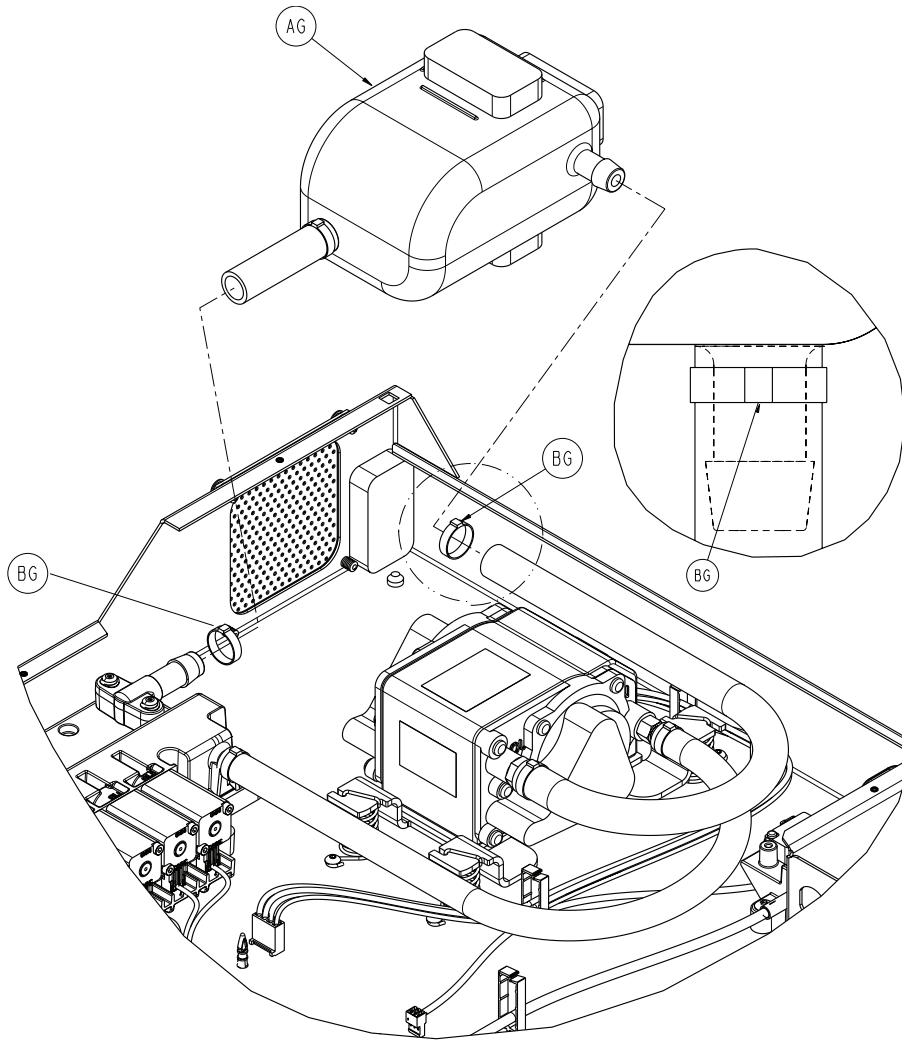

Figure 24 – Resonator
2. Using diagonal pliers, cut the cable ties (BG) from the inlet and outlet hoses of the resonator (Figure 24). Discard the cable ties.